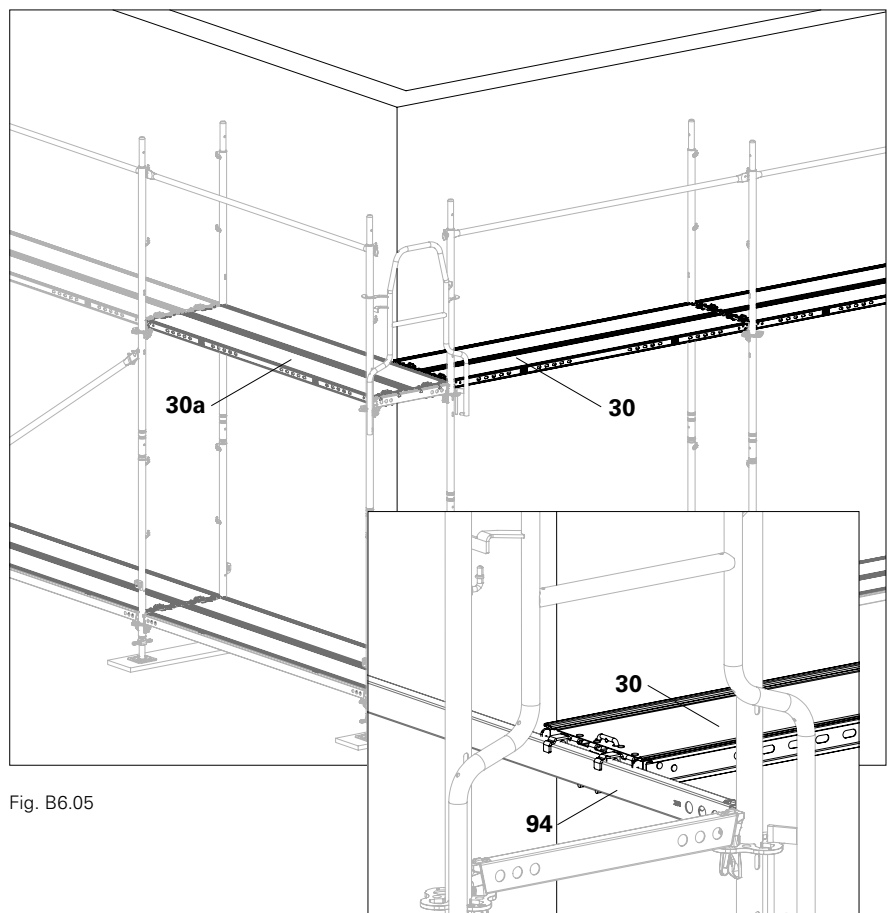

Fig. B6.05
4. Install the remaining decks (**30a**). (Fig. B6.05)